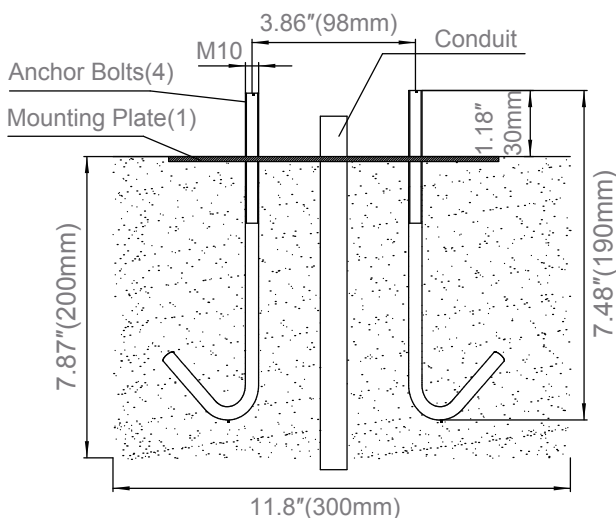

Figure2
2. Install Anchor Bolts (4) with mounting plate (1) (order separately or customer supplied) into concrete, having at least 1.18" protruding from concrete with threads free and clear of debris and dirt. See Figure 2.